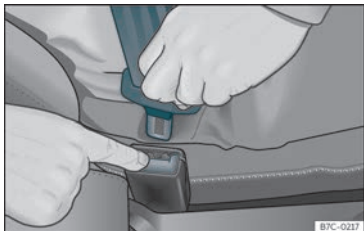

Fig. 9 Release the seat belt's buckle.
- Press the red button on the buckle >>> **Fig. 9**. The latch plate is released from the buckle.